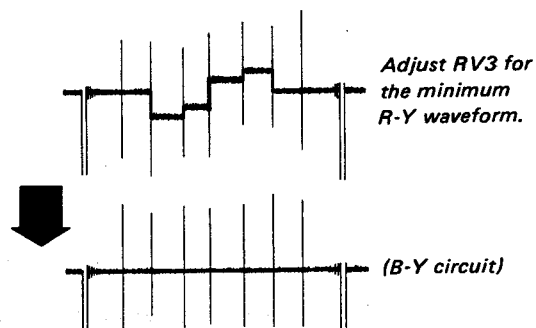

Fig. 5-94.
8. Connect the oscilloscope probe to TP11. Turn on the V signal of the signal generator, and turn off the U (B-Y) signal. Then adjust RV3 on the BA board so that the output waveform is flat. (See Fig. 5-94.)